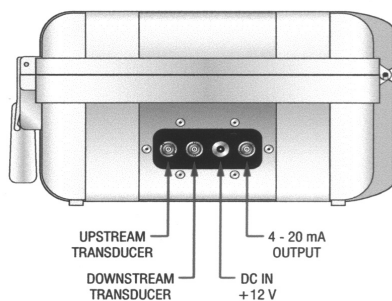

Figure 1.3
- Refer to the WIRING DIAGRAM located on the inner door of the FDT-81 transmitter and **Figure 1.3** for proper power and transducer connections.